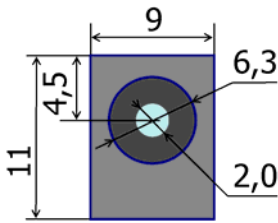
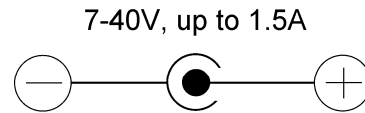

Figure 2. Power In connector. Dimensions.
Figure 3. Power In connector. Pinout.
- **Stabilized DC power supply** with 2 mm central pin connector. Dimensions and polarity are shown on Figure 2 and Figure 3. Power supply rated current must exceed average stepper motor rated current, by no less than two times. Power supply must never exceed 40V. Power driver can be damaged if higher voltages are applied.